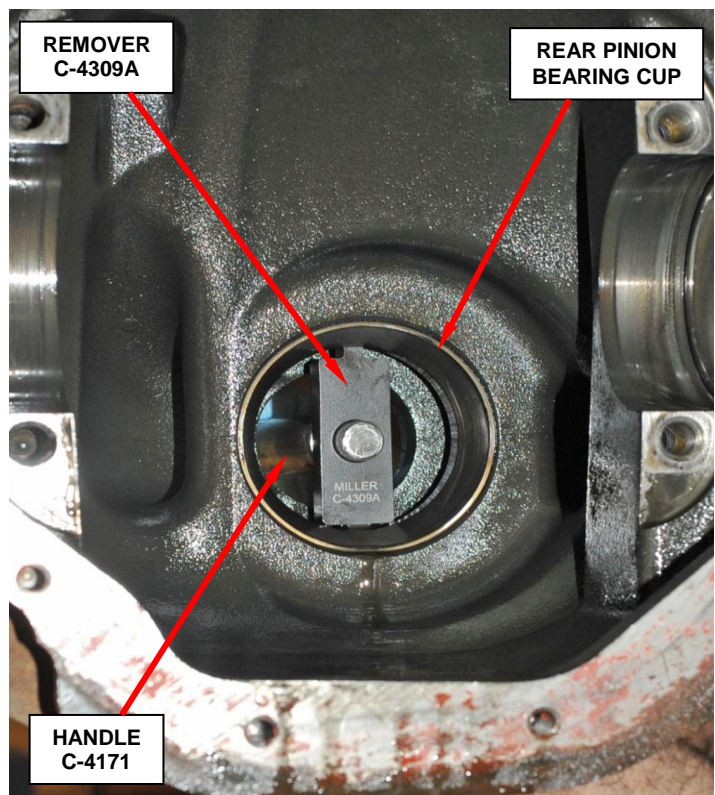

Figure 15 – Rear Pinion Bearing Cup Removal
- i. Remove the rear pinion bearing cup from the housing with Remover C-4309A, Handle C-4171 and a hammer (Figure 15).